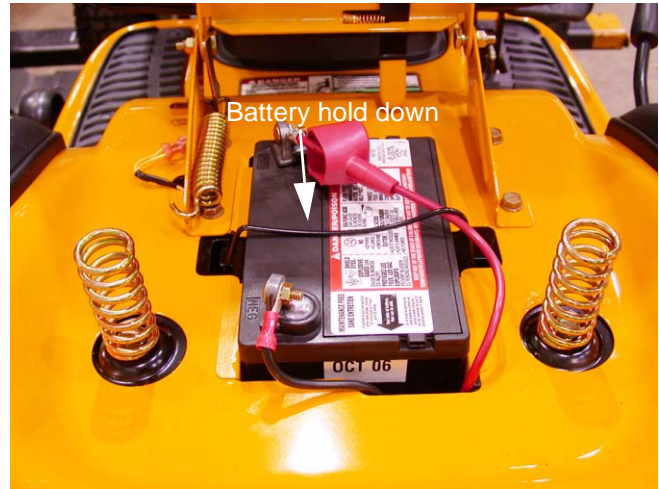

Figure 21.2
- 21.2. Remove the battery hold down, battery and battery tray from the unit. See Figure 21.2.